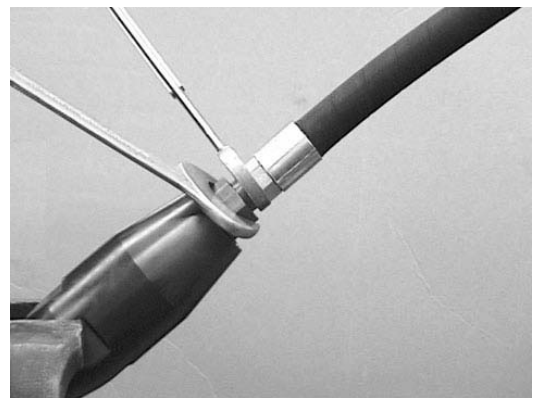

Figure 8-6. Remove Whip Hose.
- Using a 1-1/4-inch open-end wrench to hold the Adapter (18) in place, use a 1-1/8-inch open-end wrench to loosen and thread the hose fitting of Whip Hose (20) from the Adapter. Refer to Figure 8-6.